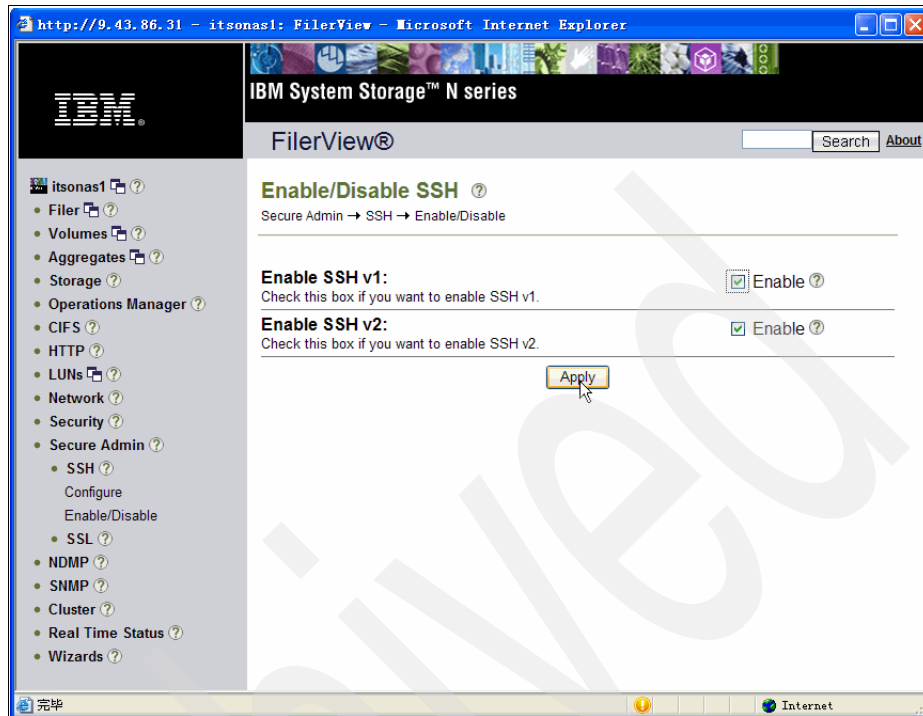

Figure 10-21 Enable SSH
2. After you successfully generate a key, go to the Enable/Disable page to enable the SSH function, as shown in Figure 10-21 on page 377.